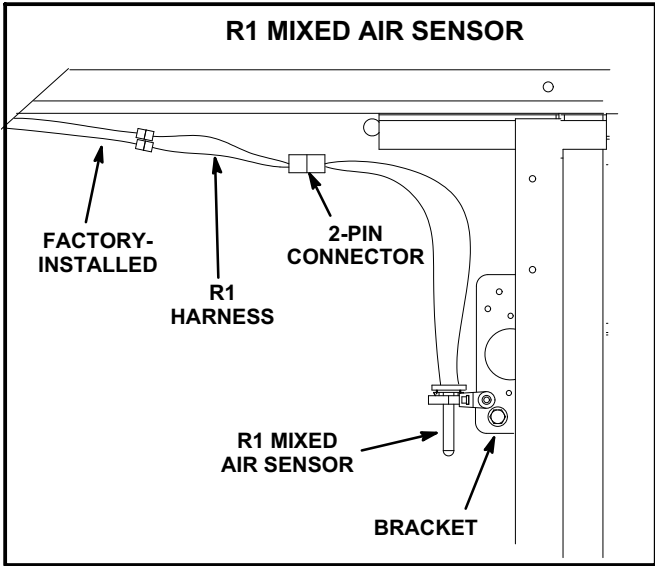

FIGURE 13
- 1- Locate two wires labeled R1 in wire bundle in top of blower section. Connect spade terminals on R1 harness to the wires from the bundle. Connect the R1 harness 2-pin connector to the R1 2-pin connector. See figure 13. Make sure to secure wires away from moving parts.